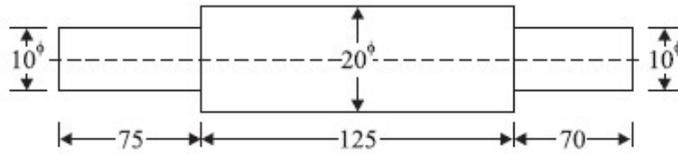

Fig.1 (All Dimensions are in millimetre)
14. (a) (i) 150 pieces of shafts as shown in Fig. 1 are to be drop forged from the raw stock of 2 cm diameter. Estimate the cost incurred assuming that material cost = Rs. 5.20 per metre. Cost of forging = Rs. 120.50 per sq. meter of surface area to be forged. Overhead expenses to be 100% of the cost of the forging. Consider all losses. **(10) 2 AP**